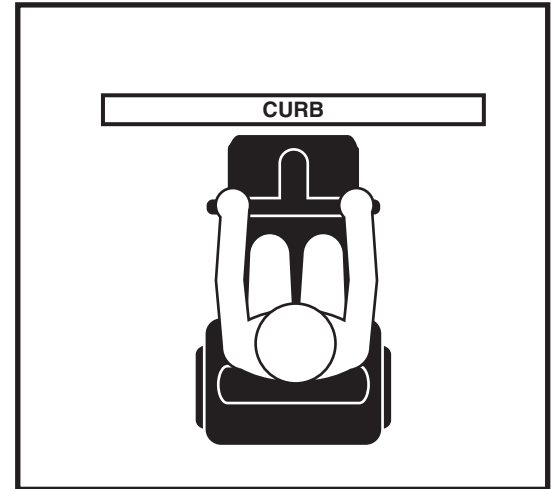

Figure 6. Correct Curb Approach
1. Approach the curb or obstacle slowly, and make sure the scooter is traveling perpendicular to the obstacle. **See figure 6.**